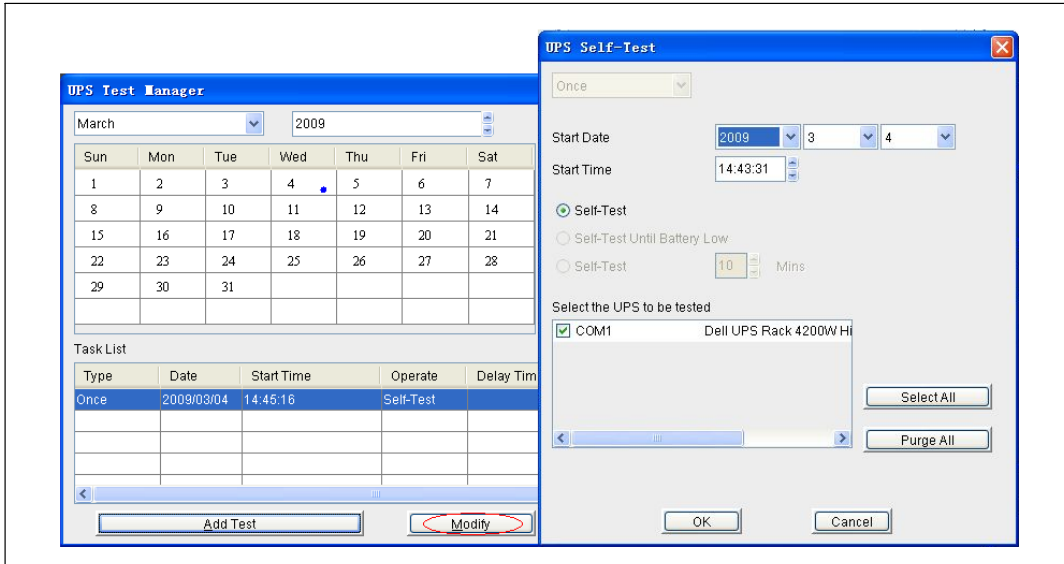

Figure 78. Modify Task
- 2 Click **Modify** and then update the schedule (see Figure 78).